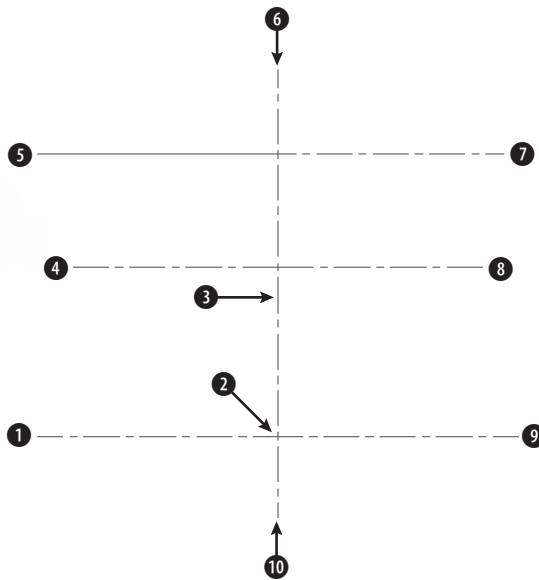

Figure 21-17: These center lines are the basis for drawing a chair.
3. Choose Circle from the Draw toolbar. Use the From object snap to specify the center at `@2,0` from 1 in Figure 21-17. Set the radius to 0.5.